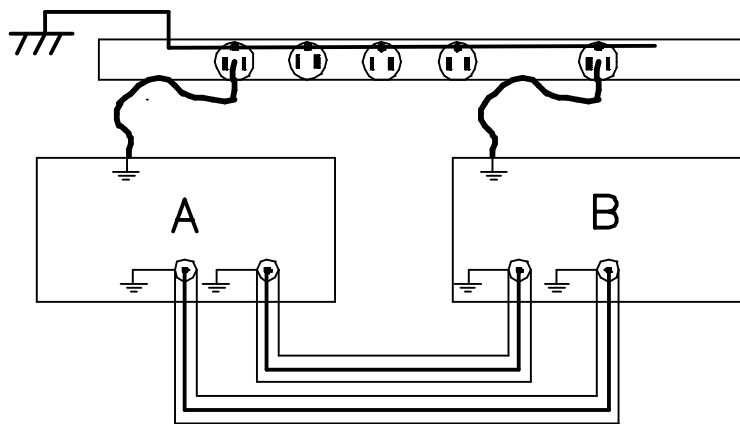

Figure 3. Ground loop example.
1. Ground loops occur when circuitry has multiple grounds. Each of the ground wires shown in Figure 3 are not perfect conductors and therefore have a resistance, R , associated with them. If the shields around each piece of equipment are doing their jobs and absorbing external noise, the ground wires will have a noise current, I , flowing in them towards earth ground. Therefore, instruments A and B will develop a voltage difference $V = IR$ between them. Noise voltage V will then appear on signals processed by instruments A and B. In addition, the ground loop itself serves as a large pick-up loop to intercept further EM noise.